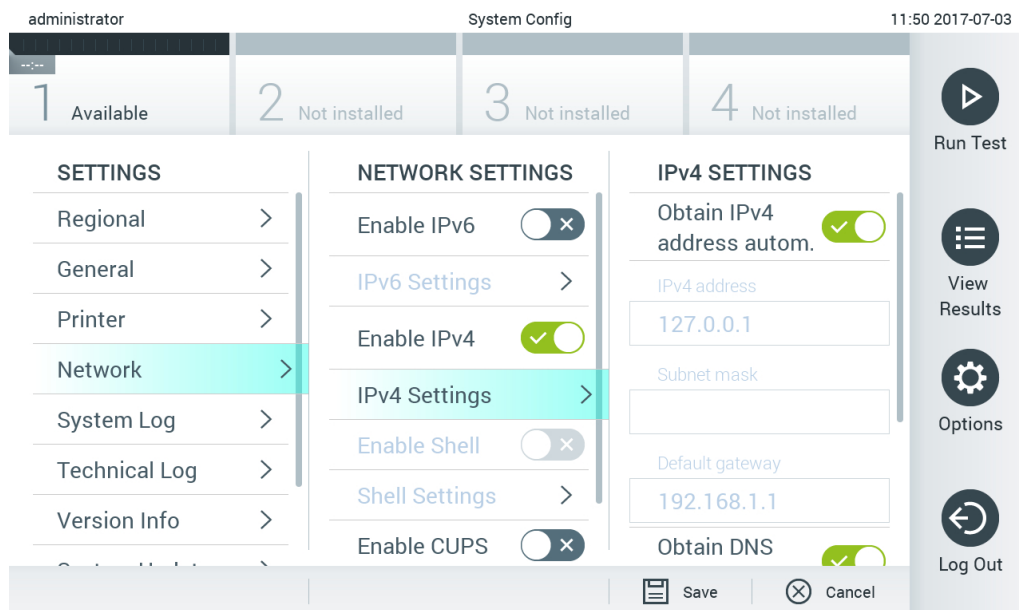

Figure 66. Configuring the network settings.
2. Select **Network** from the settings list in the left column (Figure 66, next page).